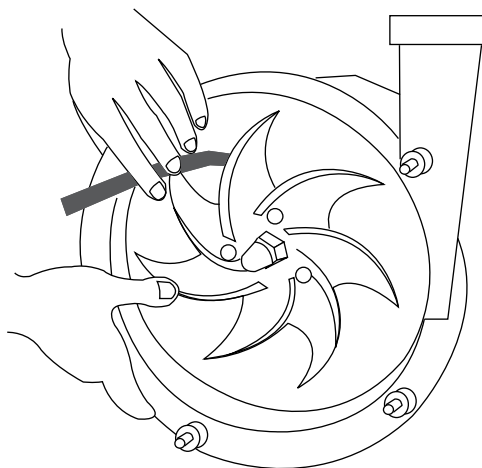

Fig. 25 Clearance between impeller and pump casing
1. Measure the clearance between the pump casing and the impeller. See Fig. 25 "Clearance between impeller and pump casing", page 18.
1. Measure the clearance between the impeller and the pump casing with a feeler gauge, see *Fig. 25 "Clearance between impeller and pump casing", page 18*.